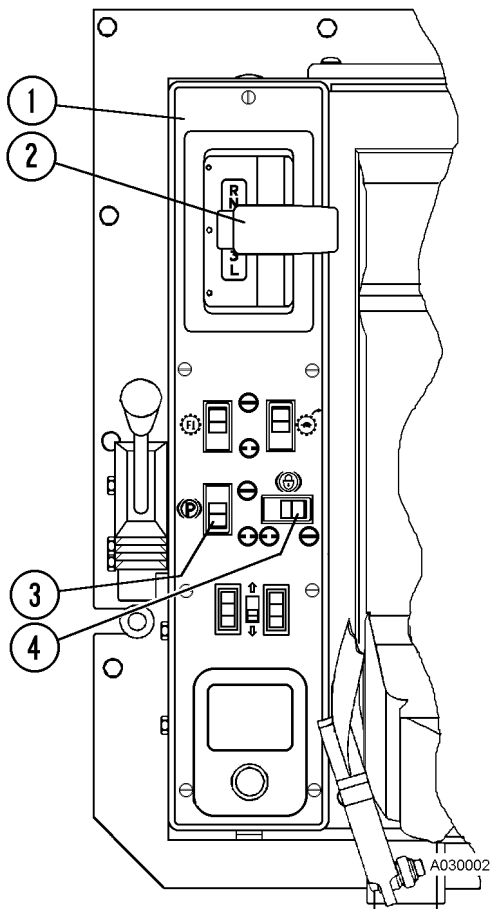

FIGURE 3-2. CONSOLE CONTROLS
- b. Move transmission range selector (2, Figure 3-2) to the **5** position and gradually increase engine speed to 1560 rpm. **Truck must not move.**
- b. Move the transmission range selector (2, Figure 3-2) to any position other than **N**; verify the central warning lamp (6) on the left pod flashes.